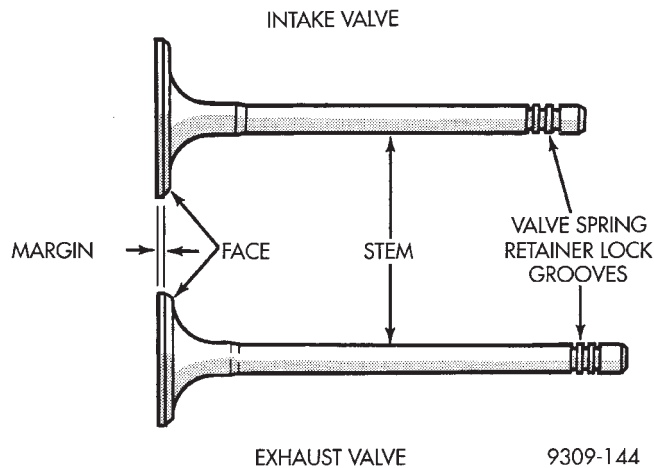

Fig. 20 Intake and Exhaust Valves
(1) Inspect the remaining margin after the valves are refaced (Fig. 20). Refer to Valve Specifications Chart.